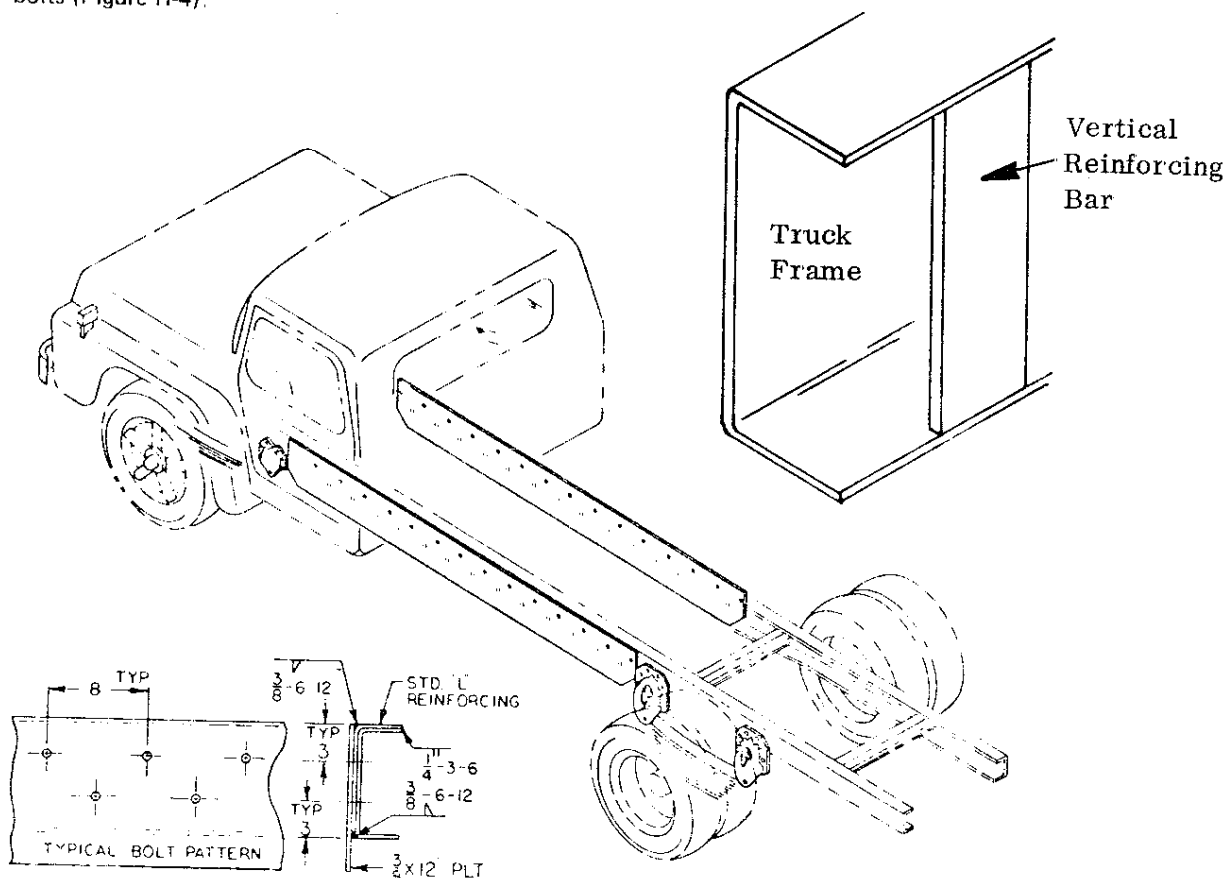

Figure H-1. Frame Reinforcement
- 4 Weld fishplate to "L" reinforcing angles (Figure H-1)
Do not weld on high tensile frames. The heat generated by welding can cause structural damage to the truck frame resulting in a frame failure. Bolt fishplate utilizing pattern in Figure H-1 Use $3/8-8$ NC Grade 6 or 8 bolts, hardened washers both sides and self-locking nuts. Torque according to Torque Data Table in the Appendix.